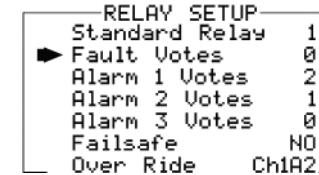

Figure 2-8. Relay Setup Menu
The menu shown in Figure 2-8 allows configuring of both the standard Relay 1 & Relay 2 motherboard relays and the six optional relays on the 10-0222 discrete relay option PCB. Both standard and optional relays are programmed in this menu. Select the relay to be configured by pointing the arrow at the top menu item and pressing Edit. The field will scroll through all eight possible relays (2 standard and 6 optional).
- **Fault, Alarm 1, Alarm 2, Alarm 3** menus (Figure 2-8) offer additional “voting” flexibility by controlling the channel alarm combinations that will trip the selected relay. Each **Votes** entry requires the specified quantity of that alarm to be active before this relay activates. As illustrated in Figure 2-24 Standard Relay 1 activates when any 2 channels have Alarm 1 conditions, PLUS, any one channel has an Alarm 2 condition. Fault Votes and Alarm 3 Votes values are 0 therefore Fault and Alarm 3 conditions will not affect this relay.